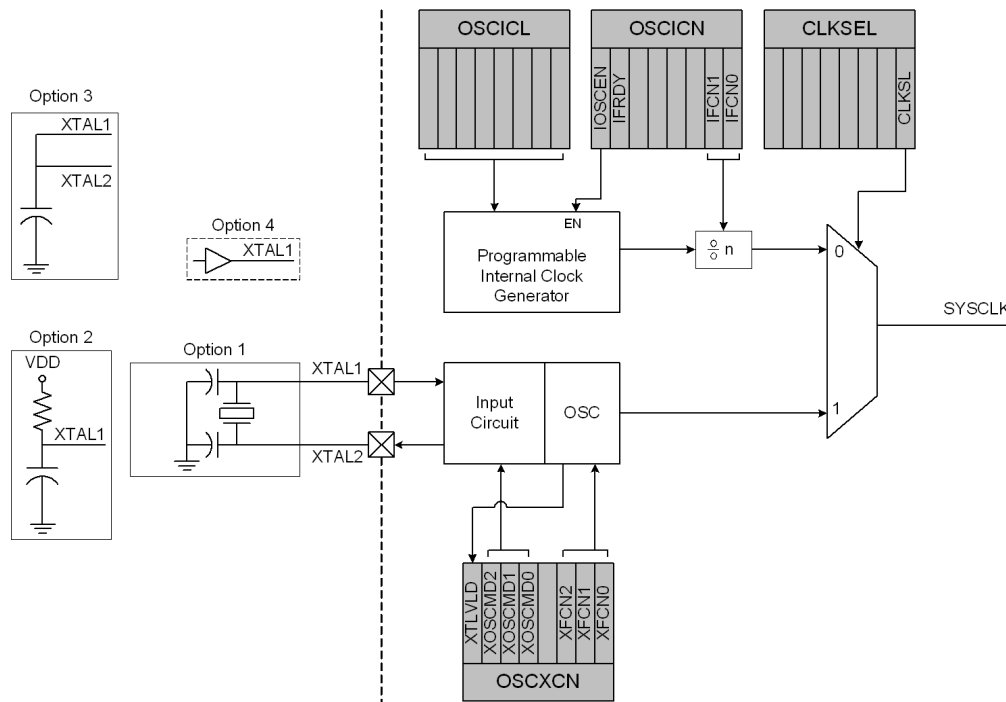

Figure 14.1. Oscillator Diagram
The external oscillator circuit may drive an external crystal, ceramic resonator, capacitor, or RC network. A CMOS clock may also provide a clock input. For a crystal or ceramic resonator configuration, the crystal/resonator must be wired across the XTAL1 and XTAL2 pins as shown in Option 1 of Figure 14.1. In RC, capacitor, or CMOS clock configuration, the clock source should be wired to the XTAL2 and/or XTAL1 pin(s) as shown in Option 2, 3, or 4 of Figure 14.1. The type of external oscillator must be selected in the OSCXCN register, and the frequency control bits (XFCN) must be selected appropriately (see SFR Definition 14.4).
**CRYSTAL MODE** (Circuit from Figure 14.1, Option 1; XOSCMD = 11x)
**RC MODE** (Circuit from Figure 14.1, Option 2; XOSCMD = 10x)
**C MODE** (Circuit from Figure 14.1, Option 3; XOSCMD = 10x)